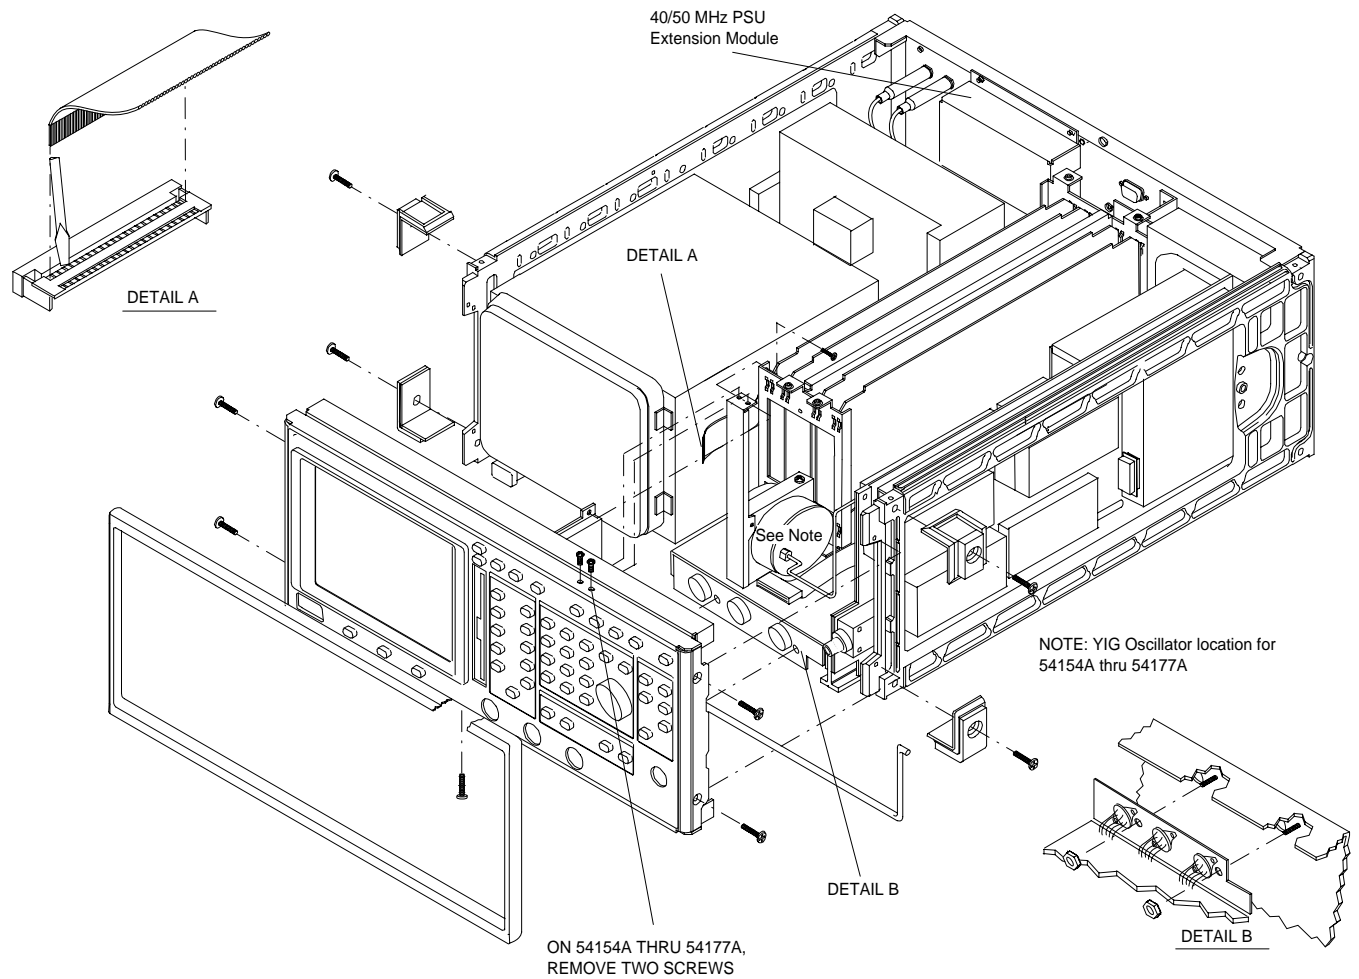

Figure 7-3. Exploded View of Front Panel Assembly
- Step 1.** Orient the 541XXA as appropriate to remove the four corner brackets and tilt bail from the front of the 541XXA (Figure 7-3).
- Step 8.** Remove the two nuts shown in Figure 7-3, Detail B, from the backside of the front panel, using a 1/4 inch nut driver.
- Step 10.*** Remove the three screws that fasten the power supply assembly to the chassis side rail (Figure 7-3, bottom).